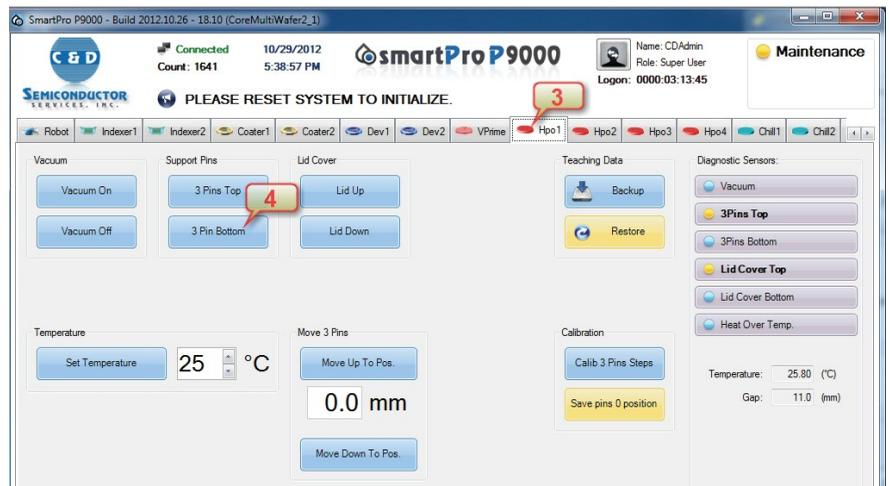

FIGURE 6-11: Centering the Hot Plate Oven
3. From the top of the System page, click the Hpo1 tab. Figure 6-11 illustrates Steps 1 through 4.